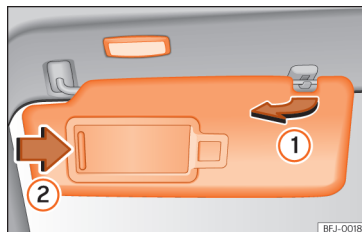

Fig. 110 Sun visor
- The sun visor can be pulled out of its mounting and turned towards the door >>> **Fig. 110 ①**.